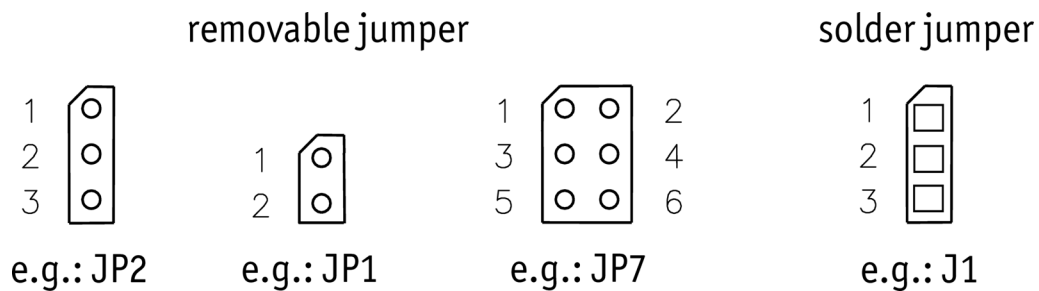

Figure 15: Jumper Numbering Scheme
The phyCORE Carrier Board comes pre-configured with some removable jumpers (JP) and several solder jumpers (J). The jumpers allow the user flexibility of configuring a limited number of features for development purposes. Table 43 below lists the jumpers, their default positions, and their functions in each position. Figure 15 depicts the jumper pad numbering scheme for reference when altering jumper settings on the development board.